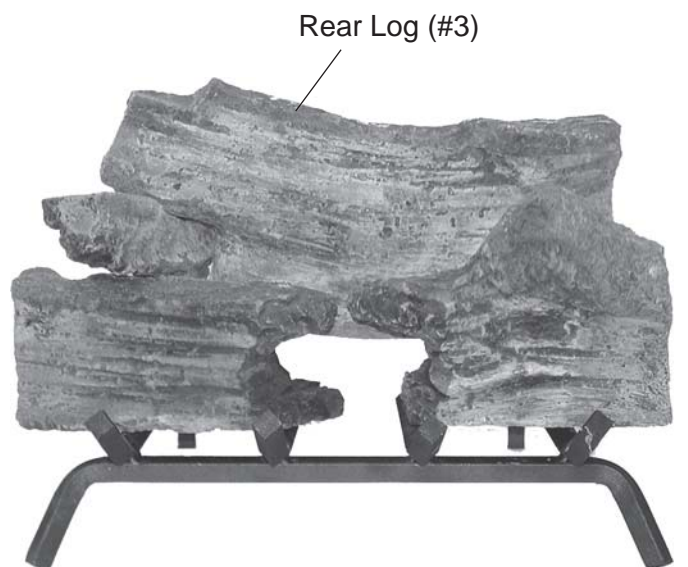

Figure 96 - Installing Rear Log #3
5. Fit cutout in the bottom left of Rear Log #3 over the back end of log #1A. Rest right end of Log #3 on rear grate bar. *See Figure 96.*